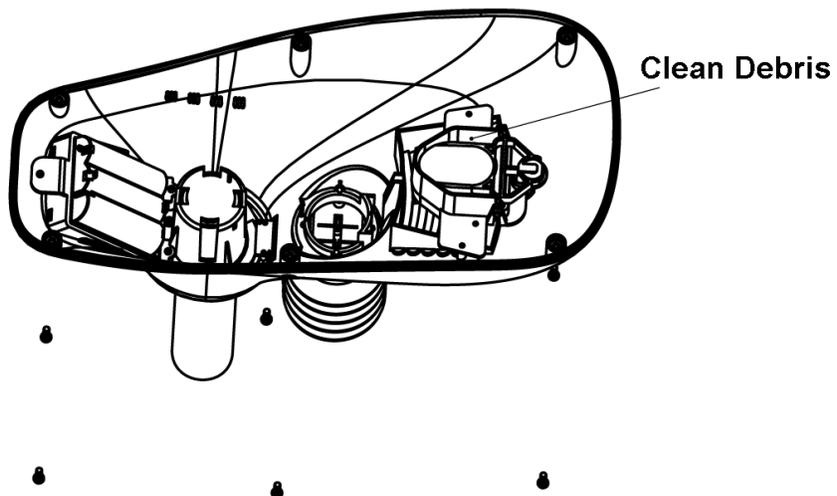

Figure 15
3. Clean any debris and spider webs, as shown in Figure 15.